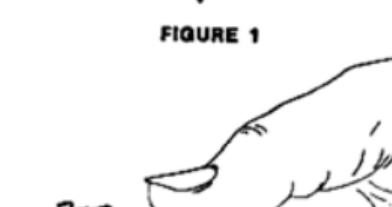

FIGURE 1
CONNECTIONS (see Figure 1):
4. Connect leads to cartridge (see Figure 1).
2. Enfilez les cosses sur la cellule (voir fig. 1).